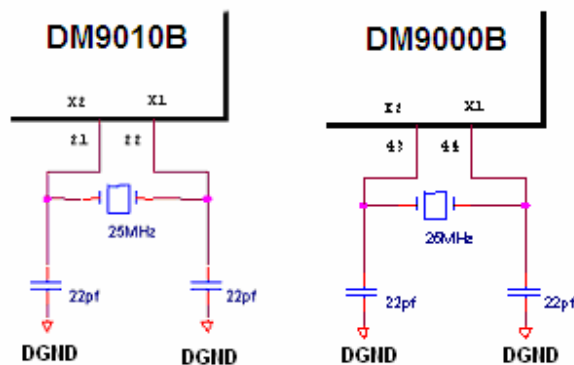

Fig. 7-1 Crystal circuit for DM9010B and DM9000B
- A crystal can be used to generate the 25.000MHz reference clock instead of an oscillator. The crystal must be a fundamental type, series-resonant, connect to XT1 and XT2, and shunt each crystal lead to ground with a 22pF capacitor as shown in **Fig.7-1**.